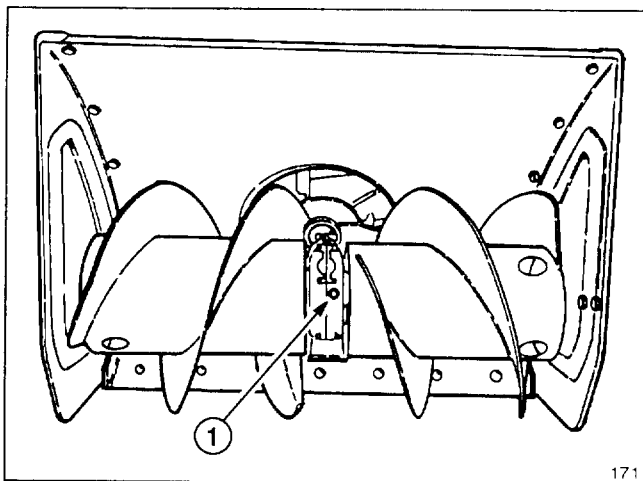

Figure 26
AUGER GEAR BOX OIL (Fig. 26)
3. Remove pipe plug from gear box (Fig. 26).